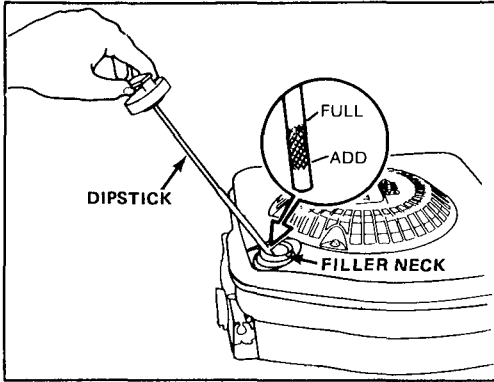

Figure 5
Before each use, assure oil level is between FULL and ADD marks on dipstick (Fig. 5). Add oil if level is low.
3. Wipe dipstick and insert it into filler neck. Rotate cap clockwise 1/4 turn. Then remove dipstick and check level of oil on side of dipstick with FULL and ADD marks (Fig. 5). If level is low, add only enough oil to raise level to FULL mark on dipstick. **DO NOT FILL ABOVE FULL MARK BECAUSE ENGINE COULD BE DAMAGED WHEN STARTED. POUR OIL SLOWLY.**
1. CHECK OIL LEVEL—Maintain oil level between ADD and FULL marks as shown on dipstick (Fig. 5).